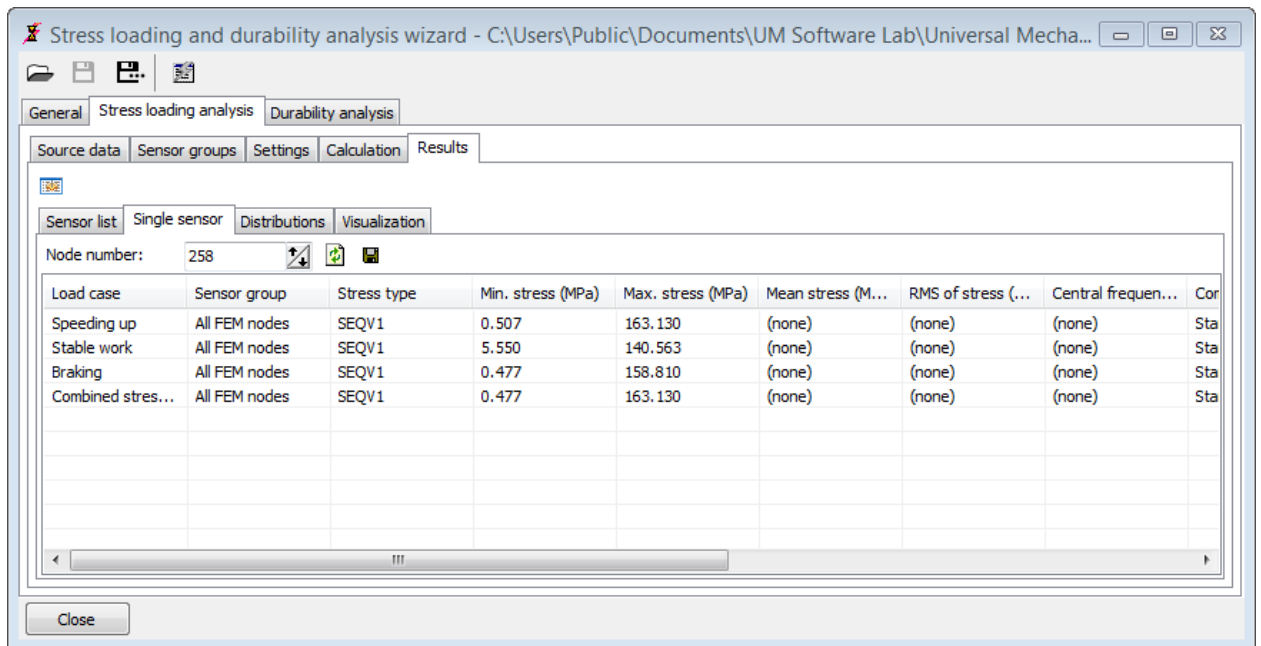

Figure 2.21. Results: particular node
- Select **Stress loading analysis | Results | Single sensor** tab and set **Node** number to **258**, see Figure 2.21.